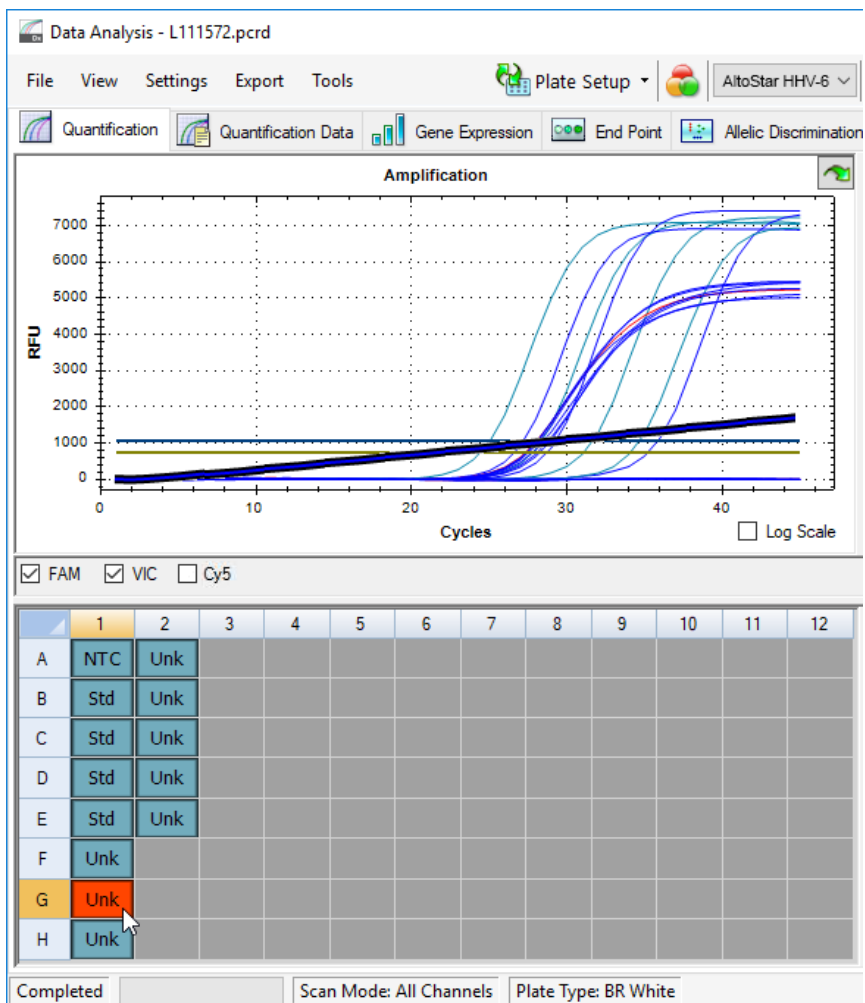

Figure 6: Data Analysis window: irregular PCR signal
2. Identify wells with irregular PCR signals (linear signal increase, signal spikes, etc.) in any of the FAM™ (HHV-6A target), VIC™ (IC) or Cy5 (HHV-6B target) detection channels (see figure 6).